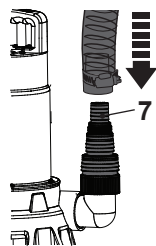

Fig. 3
3. Attach a suitable hose / pipe to the hose connector (7) and secure it with suitable fixing device, e.g. hose clip (Fig. 3).